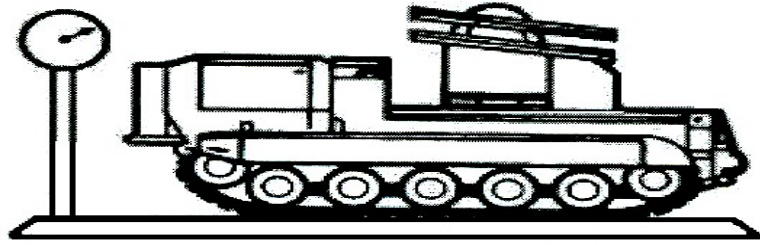

Figure 3-21
- a. Order driver to drive vehicle onto a platform scale large enough to accommodate the entire vehicle (see Figure 3-21).